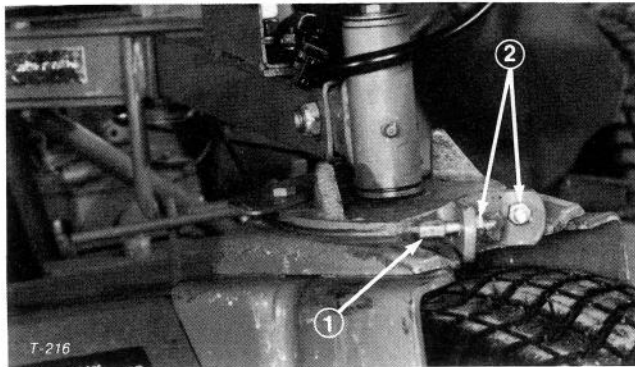

Figure 42
1. Secure cable end hex with open end wrench (Fig. 42).
2. Turn nut on cable end until slack is removed. Repeat procedure on remaining cable end (Fig. 42).